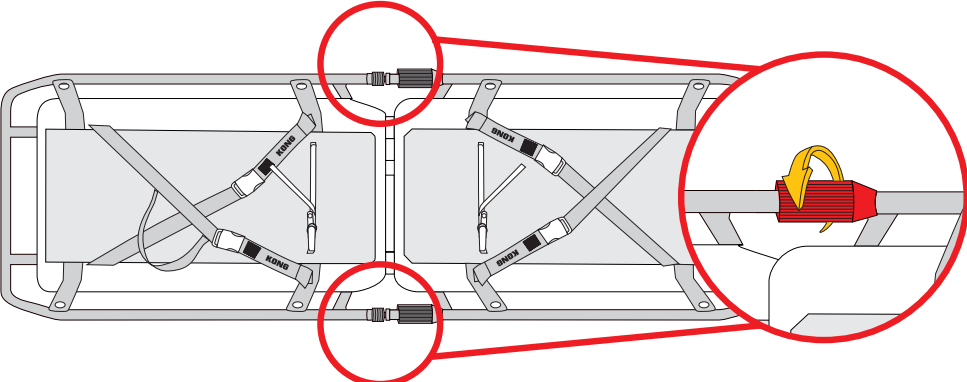

Fig.8
c) fully tighten the two ring nuts (fig. 8).